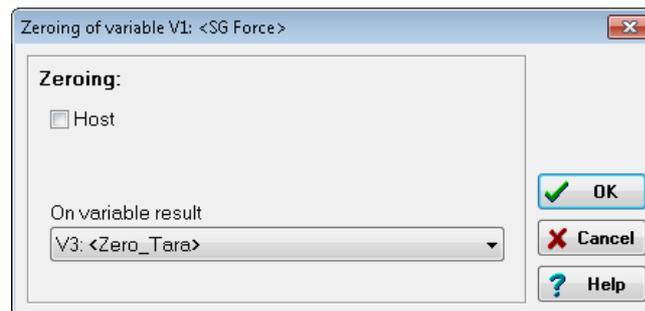

Fig. 6-6 Setting up zero balance or tare.
6. Select the variable created above as the control variable (Fig. 6-6).